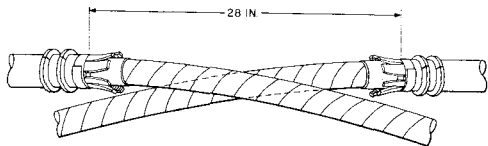

Fig. 10—Verifying Opening Length
3.12 Make sure the distance between the remaining tape markers is 28 inches. Remove the paper tape markers (Fig. 10).